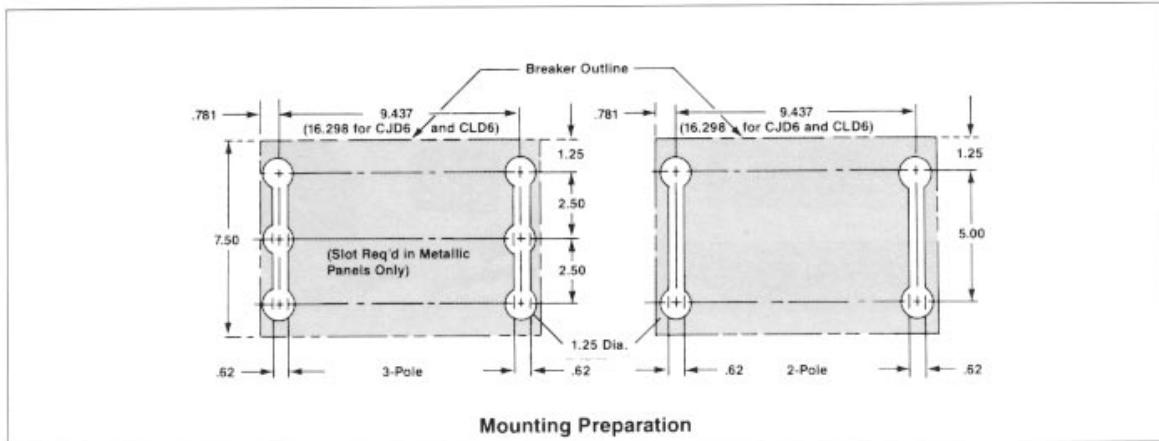

Figure 1
Mounting Preparation (Figure 1)
- A. Drilling locations are shown in Figure 1. The 5/6 in. wide cutout between holes is required when mounting the breaker with stud assemblies to a metallic panel.